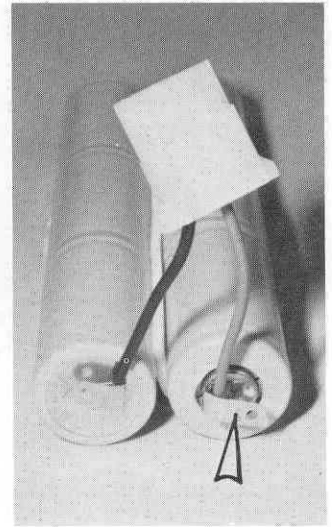

Fig. 185
□ **Fig. 185** In this photo, the arrow is pointing to the positive end. Solder the red wire to this tab and then bend the tabs back flush as close as possible.